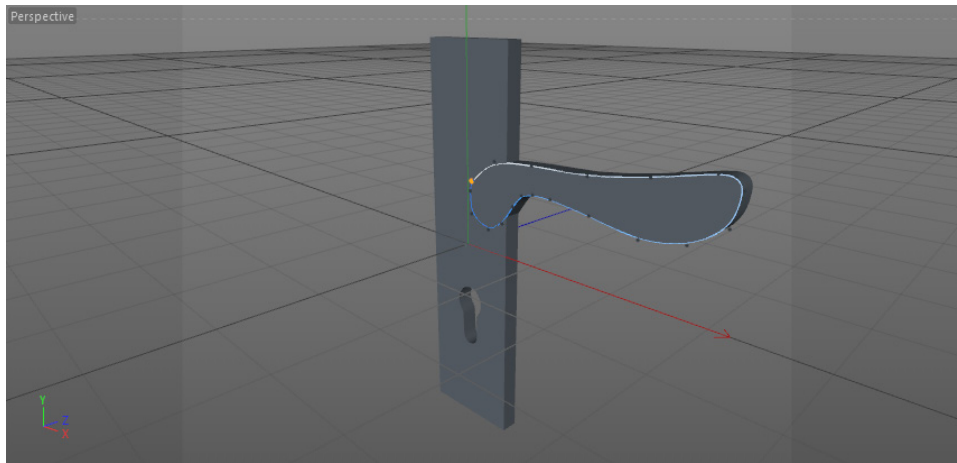

Figure 2-20 *Handle extruded in the Perspective viewport*
4. Press F1; the Perspective viewport is maximized. Next, press and hold the left mouse button on the **Subdivision Surface** tool in the Command Palette; a flyout is displayed. Next, choose **Extrude** from it; *Extrude* is added to the Object Manager. Now, select *Handle* in the Object Manager and drag *Handle* to *Extrude*; the *Handle* is connected to *Extrude* and it is extruded in the Perspective viewport, as shown in Figure 2-20.